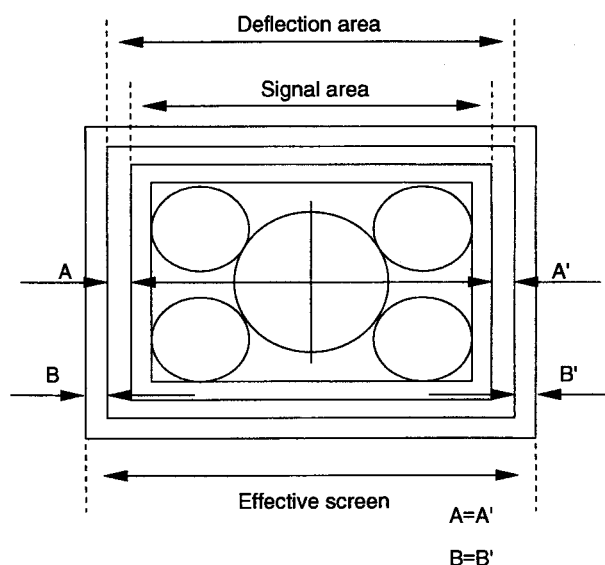

Fig.5-5
7. Adjust **[60 VIDEO PHASE]** so that the signal area will be in the center ($A = A'$) of the deflection area. (Fig.5-5)